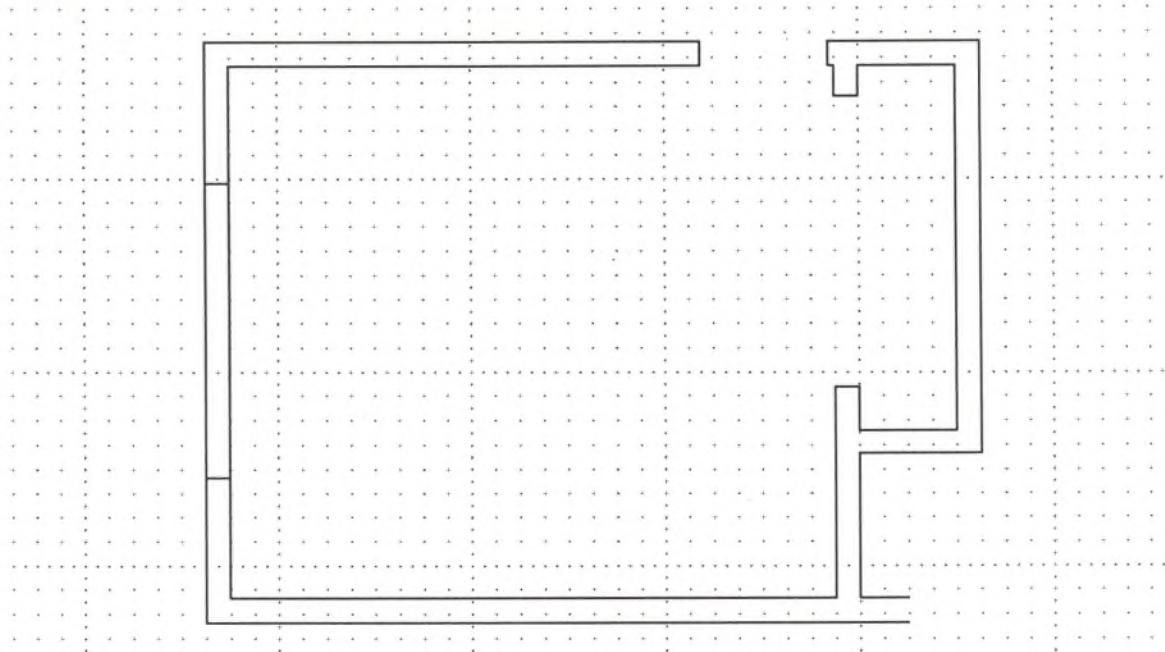

Fig. 5.2 The same room plan with an opening for a door and a closet.
6. Measure the room again to determine the location and size of the door, window, and closet openings. Erase the wall lines where door and closet openings are to appear on the drawing. Leave wall lines *in* where the window is to be located. Compare your drawing with Fig. 5.2.
3. Add the projections, offsets, or closets from your sketch to your drawing in accurate scale. You have now reached the stage of plan development shown in Fig. 5.2.